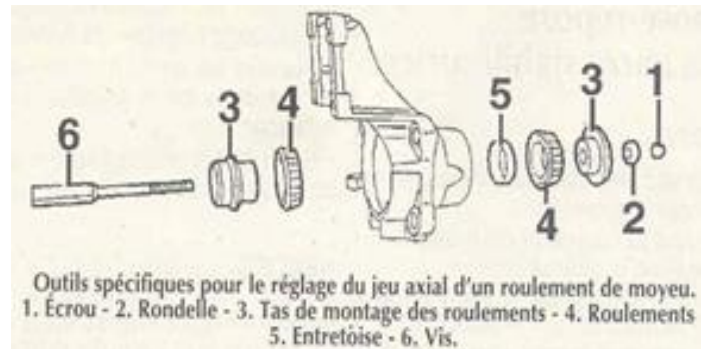

Figure 1
2) Install the adjustment tool (fig.1) and tighten the nut to 10 Nm; loosen it slightly and rotate the assembly in both directions, then re-tighten the nut to 10Nm